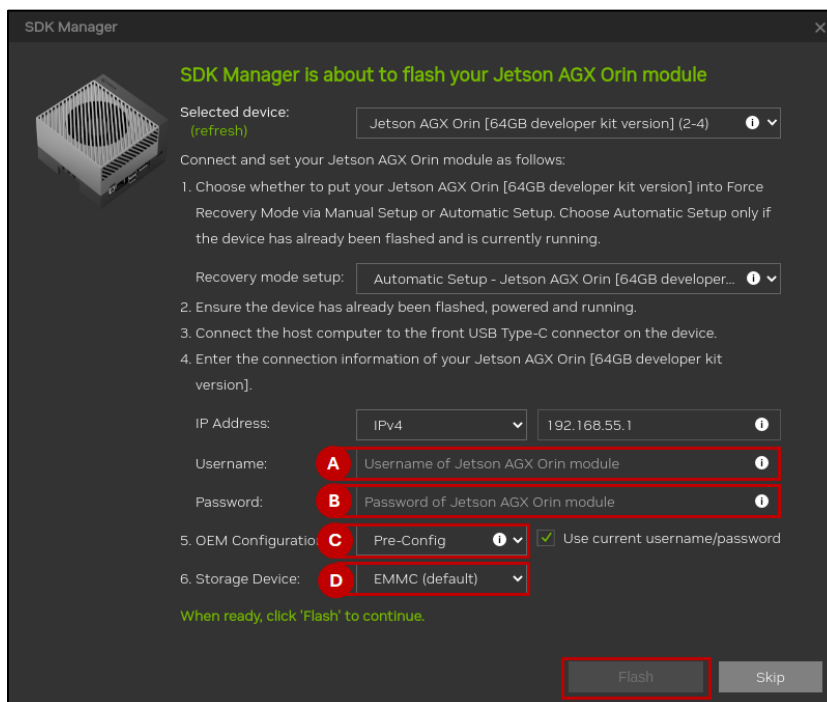

Figure 6.9. SDK Manager
10. When prompted for a flash setup, enter the desired username to access the AGX Orin system, see letter **(A)** in Figure 6.9, along with the password at **(B)**. Select **Pre-Config** from the dropdown at **(C)** and **EMMC** as the storage device at **(D)**. Then, click **Flash** to proceed.